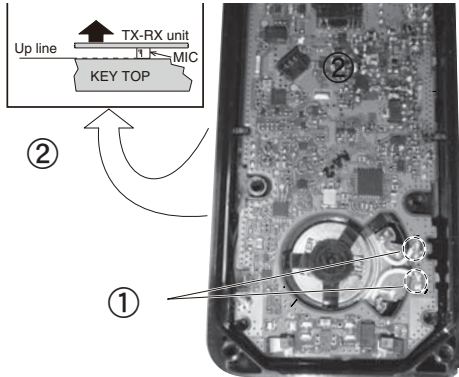

Fig.1
1. Remove the solder of the two speaker lead wires (①).
2. Lift the TX-RX unit as shown in Fig. 1 (②).